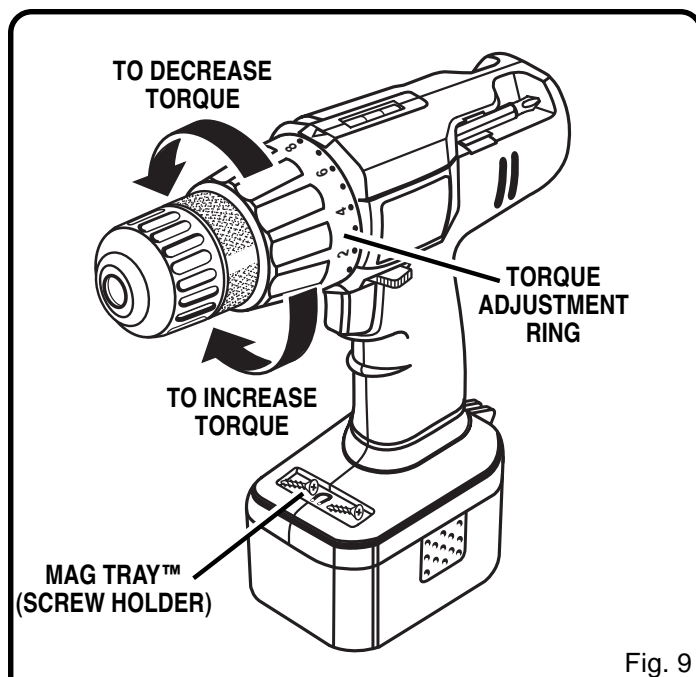

Fig. 9
See Figure 9.
The torque is adjusted by rotating the torque adjustment ring. See Figure 9. The torque is greater when the torque adjustment ring is set on a higher setting. The torque is less when the torque adjustment ring is set on a lower setting.
- Identify the twenty four torque indicator settings located on the front of your drill. See Figure 9.